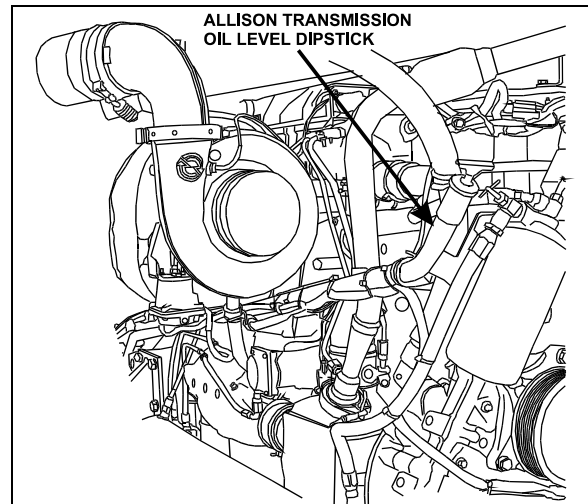

FIGURE 4: OIL LEVEL DIPSTICK (ALLISON) 07033
To gain access to the dipstick, open the engine compartment rear doors; dipstick is located on the radiator side of the engine (Fig. 4).
5. Finally shift to Neutral (N) and allow the engine to idle (500 - 800 rpm).
6. While the engine is running, remove the dipstick from the tube and wipe it clean (Fig. 4). Insert the dipstick into the fill tube, pushing down until it stops.